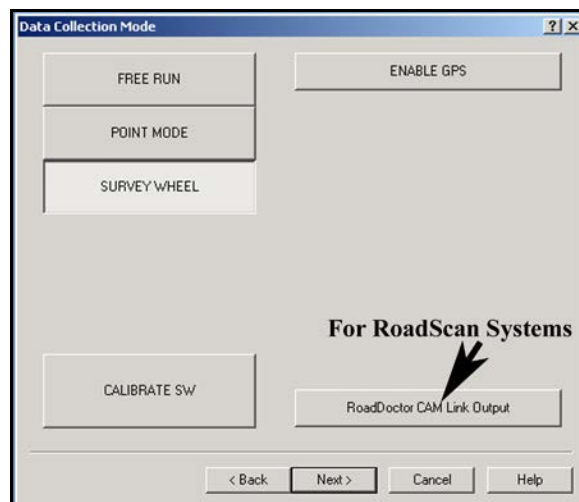

Figure 27: Data Collection Mode.
- All data input fields in this menu are optional. If you do not wish to add notes, click Next >. A window will open with the heading Data Collection Mode (Figure 27).